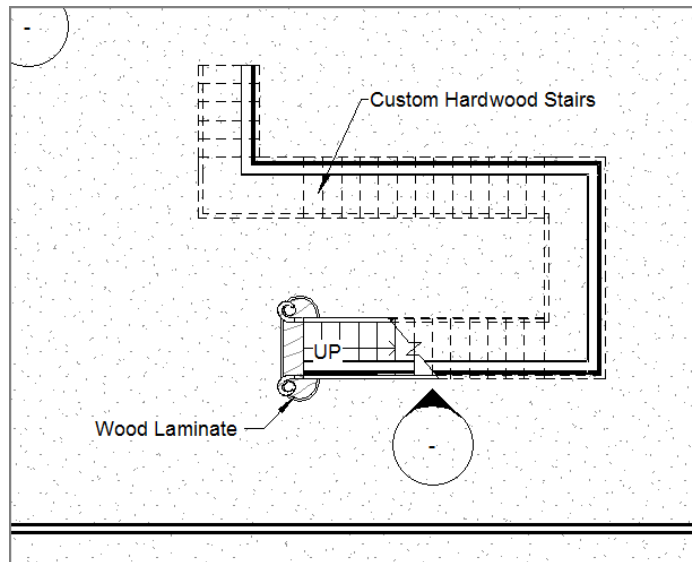

FIGURE 16.12: Placing an interior elevation
2. Place an interior elevation, as shown in Figure 16.12.